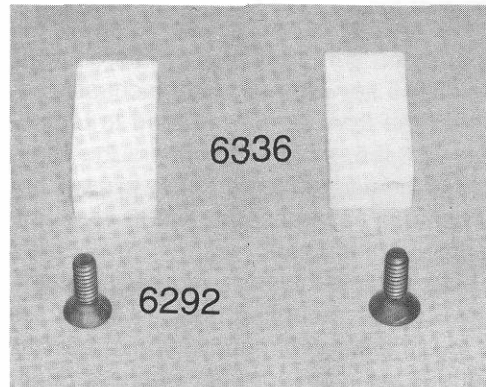

Fig. 156
□ **Figs. 156 & 157** In bag #6-6 you will find two #6336 nylon servo mounts and two #6292 4-40 x $3/8"$ FHSScrews. For now, we will temporarily install the servo mounts so we can mark them for drilling to fit your servo correctly. Fasten the servo mounts to the chassis with the two #6292 FHSScrews so that the thicker portion of the mount is towards the driver's side of the chassis. **Note:** The remaining steps will show installing the #8445 servo saver because this is the more complex installation.